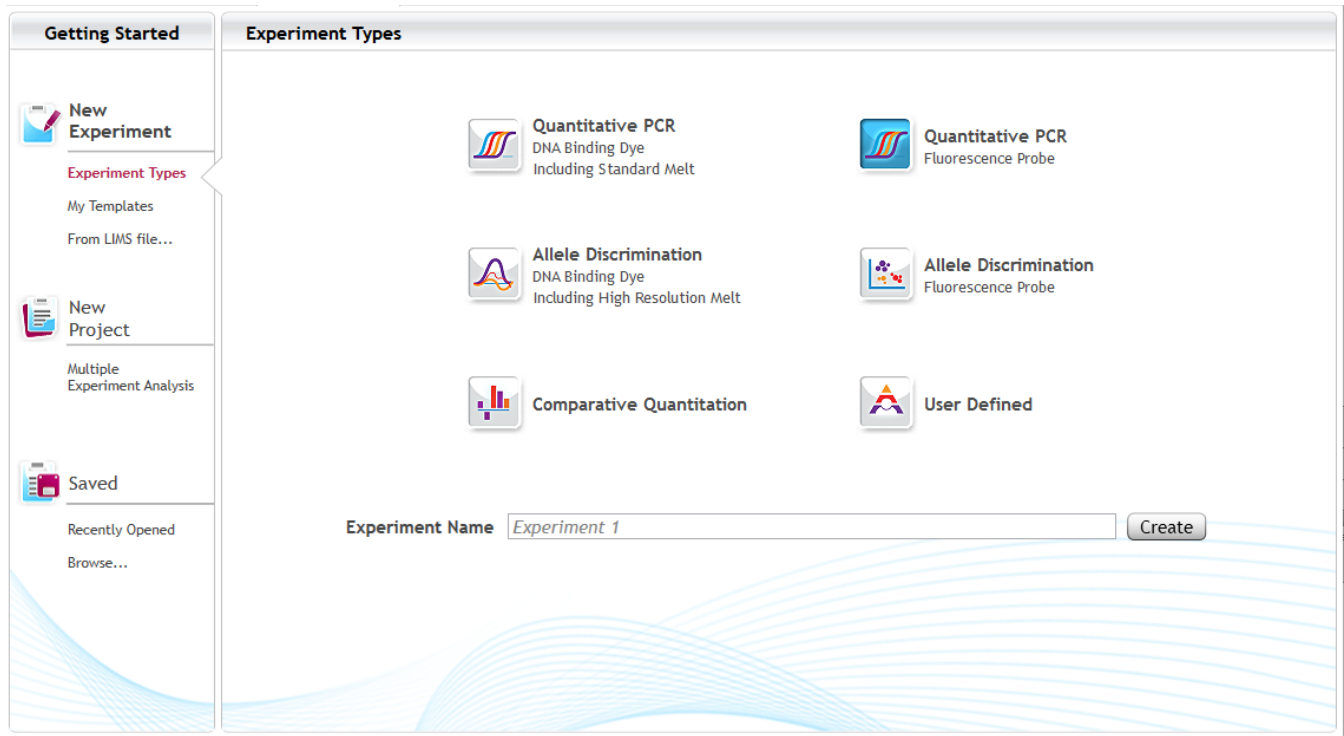

Figure 2 Aria Getting Started screen - **Quantitative PCR, Fluorescence Probe** selected
- 3 In the center of the screen, select **Quantitative PCR, Fluorescence Probe**, as shown in **Figure 2**.